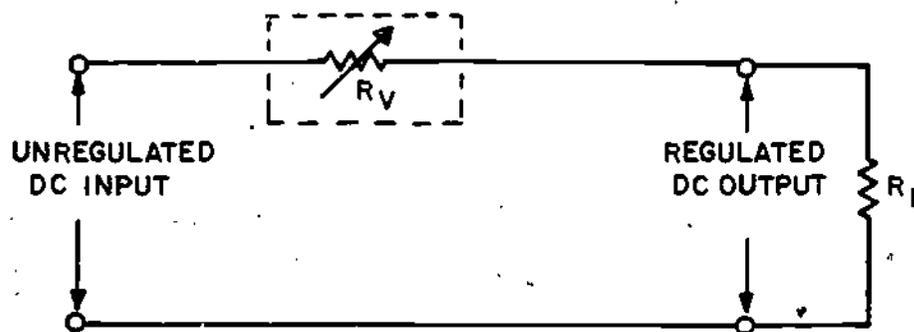

FIGURE 3
7. Figure 3 illustrates the principle of series voltage regulation. As you study the figure notice that the regulator is in series with the load resistance and that all current passes through the regulator. In this example variable resistor R_V is used for regulation. Examine the circuit to determine how the regulator functions. When the input voltage increases this also causes the output voltage to increase. However, since the voltage regulator senses this change, the resistance of the regulating device R_V increases and results in a greater voltage drop across R_V . This causes the output voltage to decrease to normal, or for all practical purposes, to remain constant.